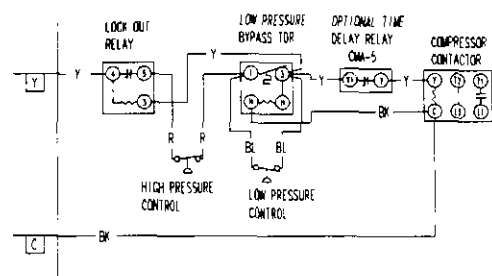

Figure 8 — Installation Instructions for CMA-4 High and Low Pressure Control
- Step 2.** Disconnect yellow low voltage (Y) wire at compressor contactor coil or (Y1) at optional CMA-5 and reconnect to terminal #4 of the lockout relay.
- Step 3.** Connect yellow wire from terminal #3 of the low pressure bypass TDR to the (Y) terminal of the compressor contactor coil or (Y1) at optional CMA-5. This is the terminal that the wire was removed from in Step 2.
- Step 4.** Connect the black wire from terminal H of the low pressure bypass TDR to the common (C) side of the compressor contactor coil.
- Step 8.** Recheck wiring. Refer to Figure 8. Check for proper operation of the unit by energizing in heating or cooling mode for at least 5 minutes. The unit should not go into lockout.